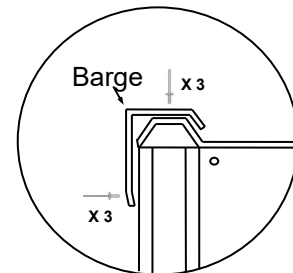

fig.3
- Rivet the Barge Flashings to the roof and the side wall, using three rivets on top of barge and three into the side (**fig.3**).